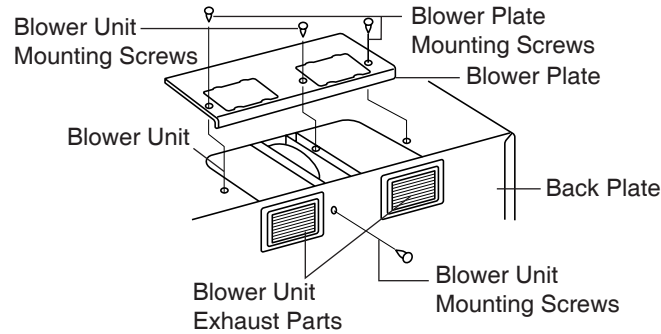

Fig. 1-3-5
- (7) Replace blower plate onto the product. Secure blower unit with two screws, one through the blower plate, and the other through oven back plate. Secure blower cover plate onto the product top with two screws. (Fig. 1-3-5)